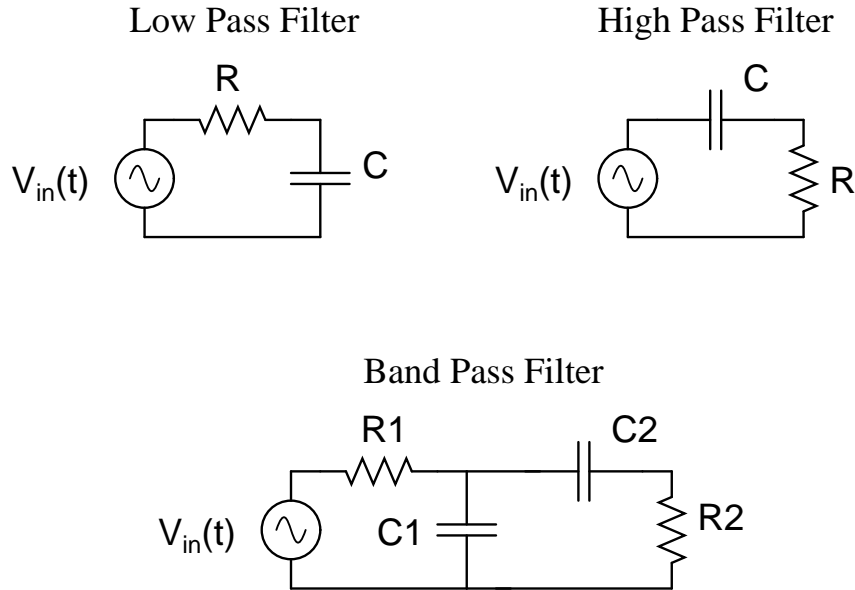

Figure 8: Basic passive RC filters. Output of LPF measured across C . Output of HPF measured across R . Output of BPF measured across R_2 .
2. **Passive RC filters** Figure 8 shows 3 common passive RC filters: 1-stage low pass filter (LPF); 1-stage high pass filter (HPF); and band pass filter (BPF) constructed from cascaded LPF + HPF. In terms of filter design, two defining characteristics of any filter are 1) cut off frequency; 2) slope in attenuation region (how “hard” the filter cuts off).